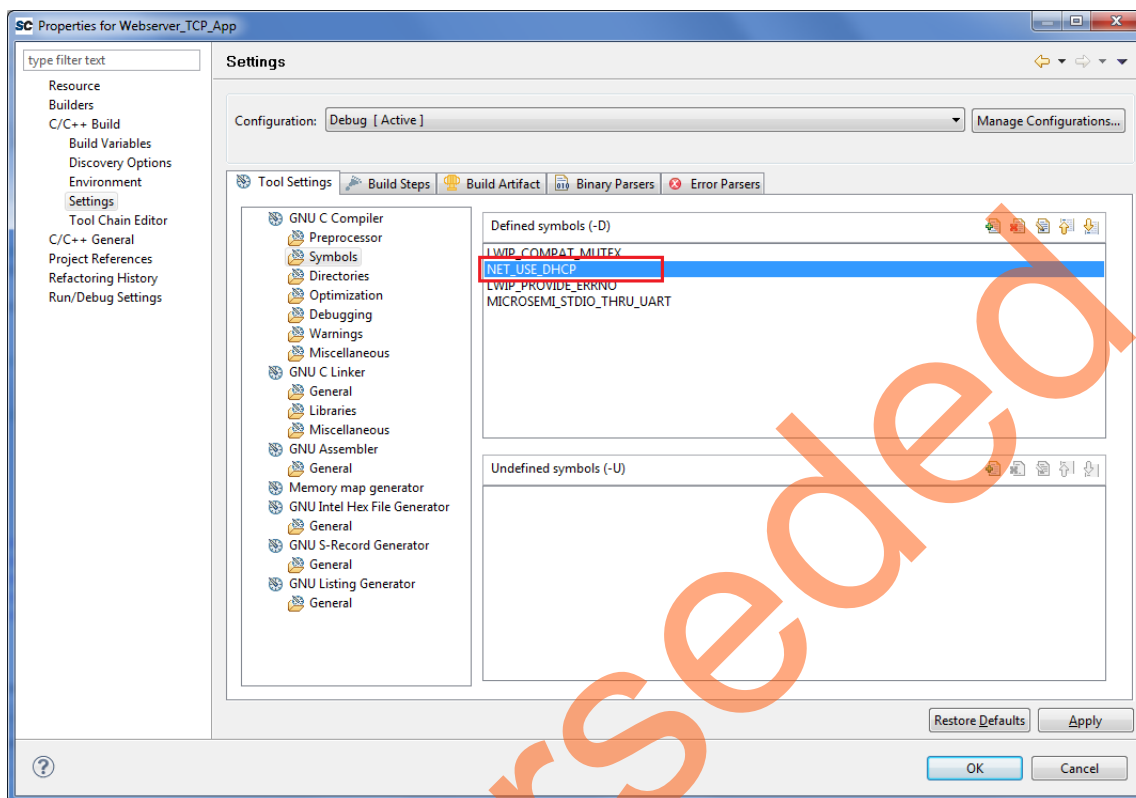

Figure 34 • Webserver_TCP_MSS_CM3_app Properties Window
2. Remove the symbol **NET_USE_DHCP** in **Tool Settings** of the **Properties for Webserver_TCP_MSS_CM3_app** window, as shown in Figure 34.